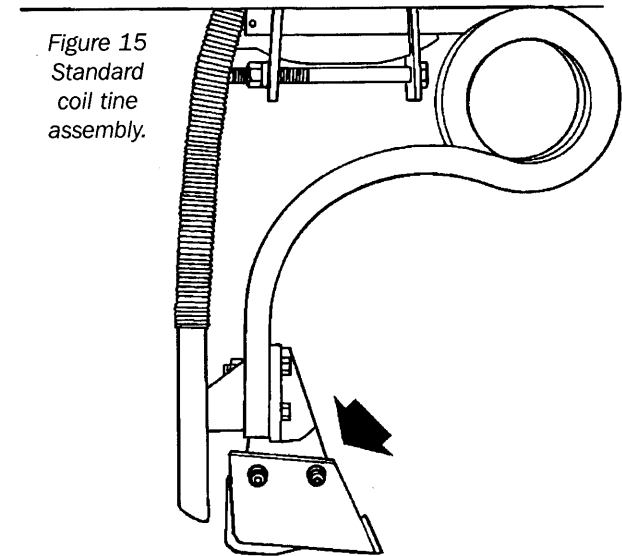

Figure 15
- c) Remove the two retaining bolts which attach the opener and remove the worn openers (see figure 15).